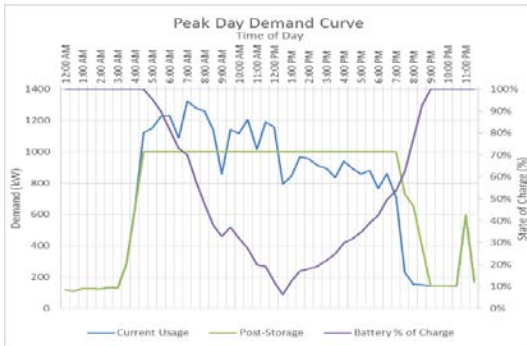
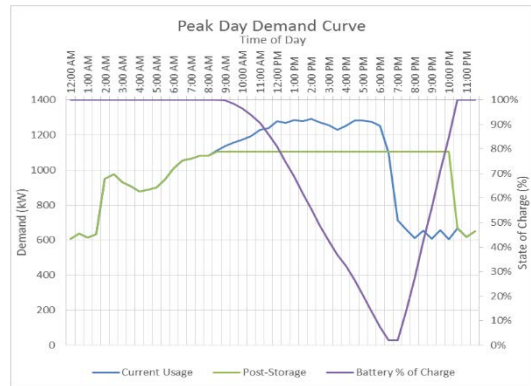

Figure 2: More "Peaky Load" shows 300kW Reduction in Demand
Figure 3: Less "Peaky Load" shows 200kW Reduction in Demand
- Peak shaving:** Peak shaving is focused on reducing the demand charge kW portion of a building's utility bill. With peak shaving, the battery is charged during periods of low demand (overnight, troughs in the day) and then discharged during periods of high demand when the monthly peak consumption could be set. Given the anticipated cycling, duration and power needs of peak shaving, energy storage is very effective. Figure 2 and Figure 3 are examples of a load profile that has more short duration peaks. Building with this type of energy demand profile can benefit more than buildings with a more consistent load from energy storage. Figure 2 shows a 3-hour energy storage system affecting demand of 3-hours for the shorter duration peaks with a peak reduction of 300kW versus Figure 3 with the long duration peak realizing only 200 kW of reduced demand. The higher the peak related to the duration of the peak (shown on a plot as a well-defined peak vs. a flat load), the better the energy storage economics and the better the application.
- **Load shifting:** Load shifting is similar to peak shaving but is more focused on reducing the kWh portion of a utility bill. Load shifting effectively captures the difference between buying energy at low prices and discharging it at higher prices. Load shifting typically provides incremental value to a system that is providing other functionality like peak shaving. An energy storage system is very effective for this as well, similar to peak shaving and is illustrated in Figure 3.
- **Frequency regulation:** Energy storage systems have proven to be a great asset to support frequency regulation (FR). FR is a service that can be provided by buildings to support the grid as it tries to balance supply and demand and maintain 50 Hz or 60Hz depending on the region. Battery systems are well suited as they are able to either absorb excess power or contribute power quickly to help balance frequency.